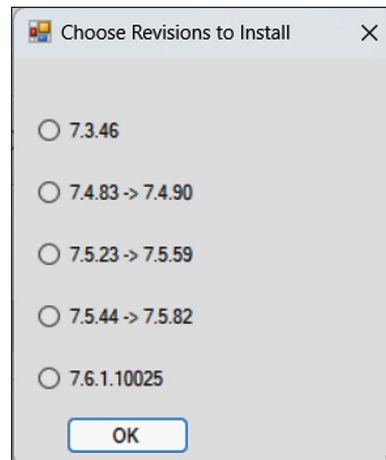

Figure 55. The Choose Revisions to Install dialog box.
- STEP 2.** Run the 7.6.1 installer and select the appropriate version 7.4 or 7.5 firmware patch. Select one matching the present version the R3 control is running. For example, when the R3 control is running 7.5.44, select the **7.5.44->7.5.82** option. See Figure 55.
Note: If the control is not running one of the version 7.4 or 7.5 releases shown in Figure 55 (i.e., 7.4.83, 7.5.23, or 7.5.44), the control must first be upgraded to one of those releases as part of this step before proceeding to Step 3.